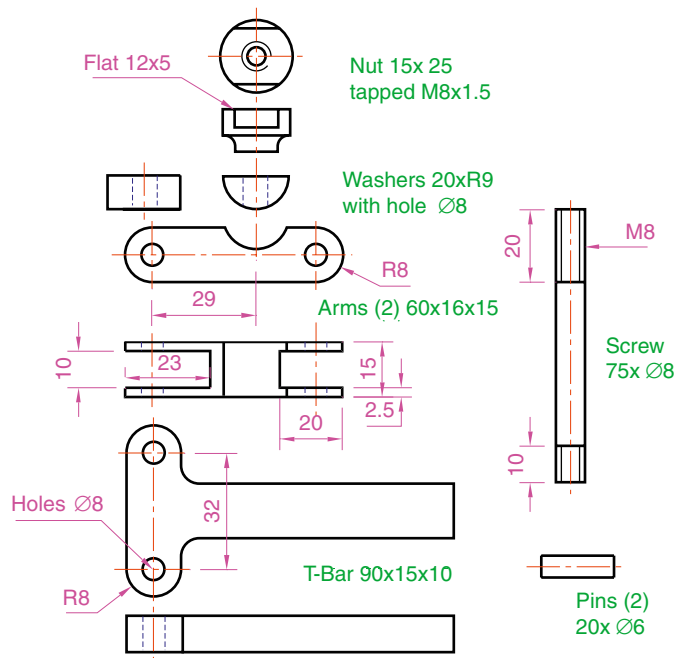

Fig. 14.1 The components of a lathe milling wheel holder
1. Construct 3D models of the parts for a lathe milling wheel holder to details as given in Fig. 14.1 each on a layer of different colours.
2. Save each of the 3D models of the parts to file names as given in Fig. 14.1 as blocks using **Create** from the **Insert/Block** panel. Save all seven blocks and delete the drawings on screen. Save the drawing with its blocks to a suitable file name (Fig01.dwg).